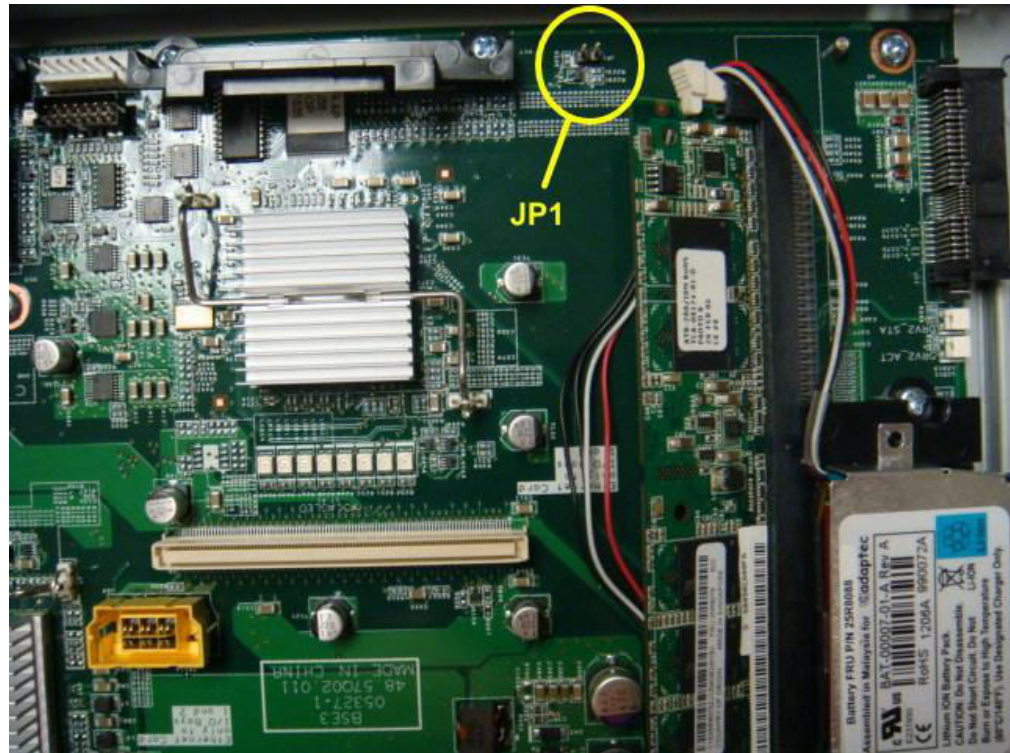

Figure 3. ServeRAID-8k and ServeRAID-8k-l zero-mode flash jumper (BladeCenter Storage Expansion Unit 3)
6. Locate the 2-pin jumper at JP1 on the system board, near the right side of the ServeRAID-8k DIMM connector, as shown in Figure 3.
7. Install the jumper connector across the two pins that are shown in Figure 3.
16. Remove the cover on the storage expansion unit and remove the 2-pin jumper connector from JP1 (see Figure 3).